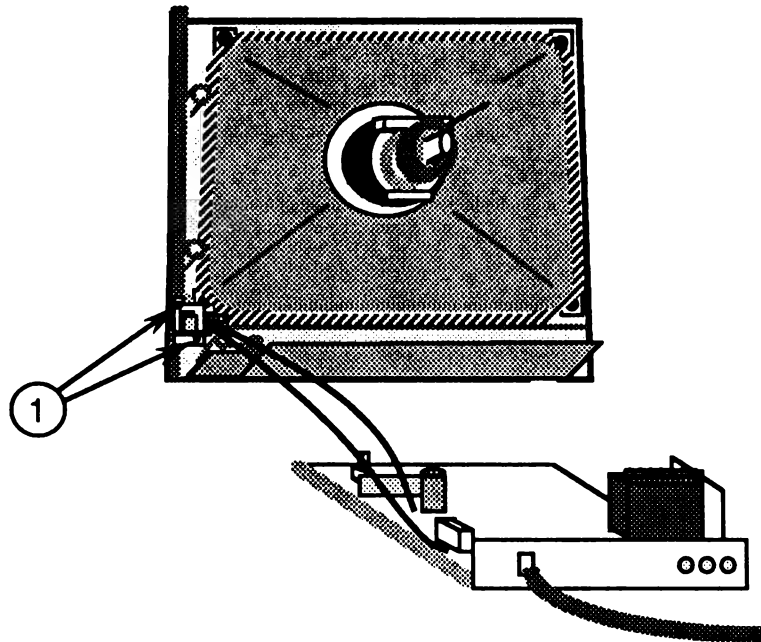

FIGURE 29
- c) Replace the two screws that secure the on/off switch to the front bezel (Figure 29, #1).